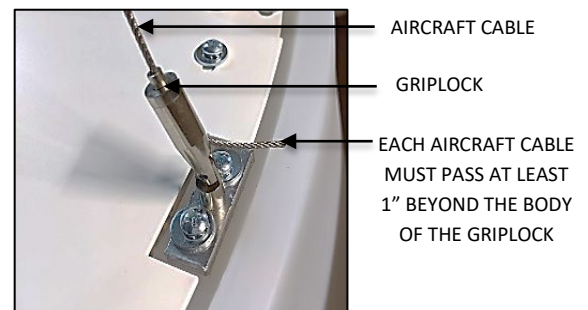

FIG. 27 – AIRCRAFT CABLE INSTALLATION
6. To feed AIRCRAFT CABLE into the GRIPLOCK, press the plunger of the GRIPLOCK and insert the AIRCRAFT CABLE into the body of the GRIPLOCK as shown in FIG. 27.